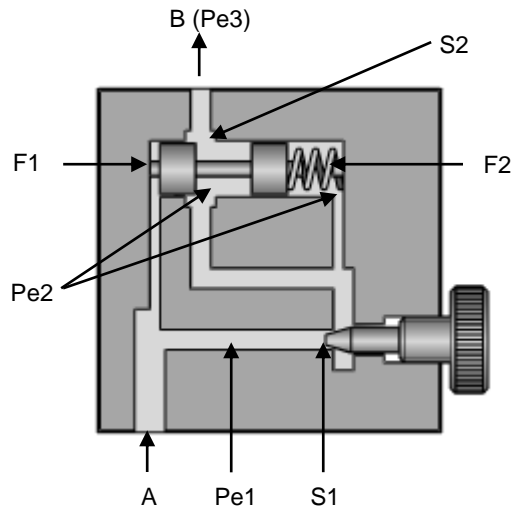

FIG 6.
- F. When the pressure Pe_1 increases, it tends to force more oil through the valve. However, when Pe_1 increases, the force F_1 also increases, causing the regulating piston to move to the right and reducing gap S_2 to such a size that the same quantity of oil still flows through the circuit. (Fig 6)